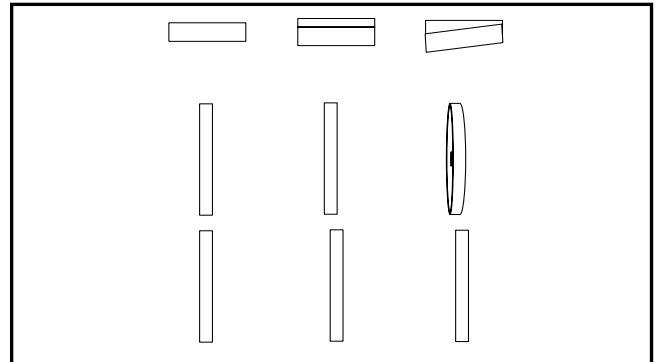

Figure 6. Wheel alignment possibilities.
4. Adjust parallelism (i.e., if the middle of the wheels are co-planar, but the sides are not). **Figure 6.**